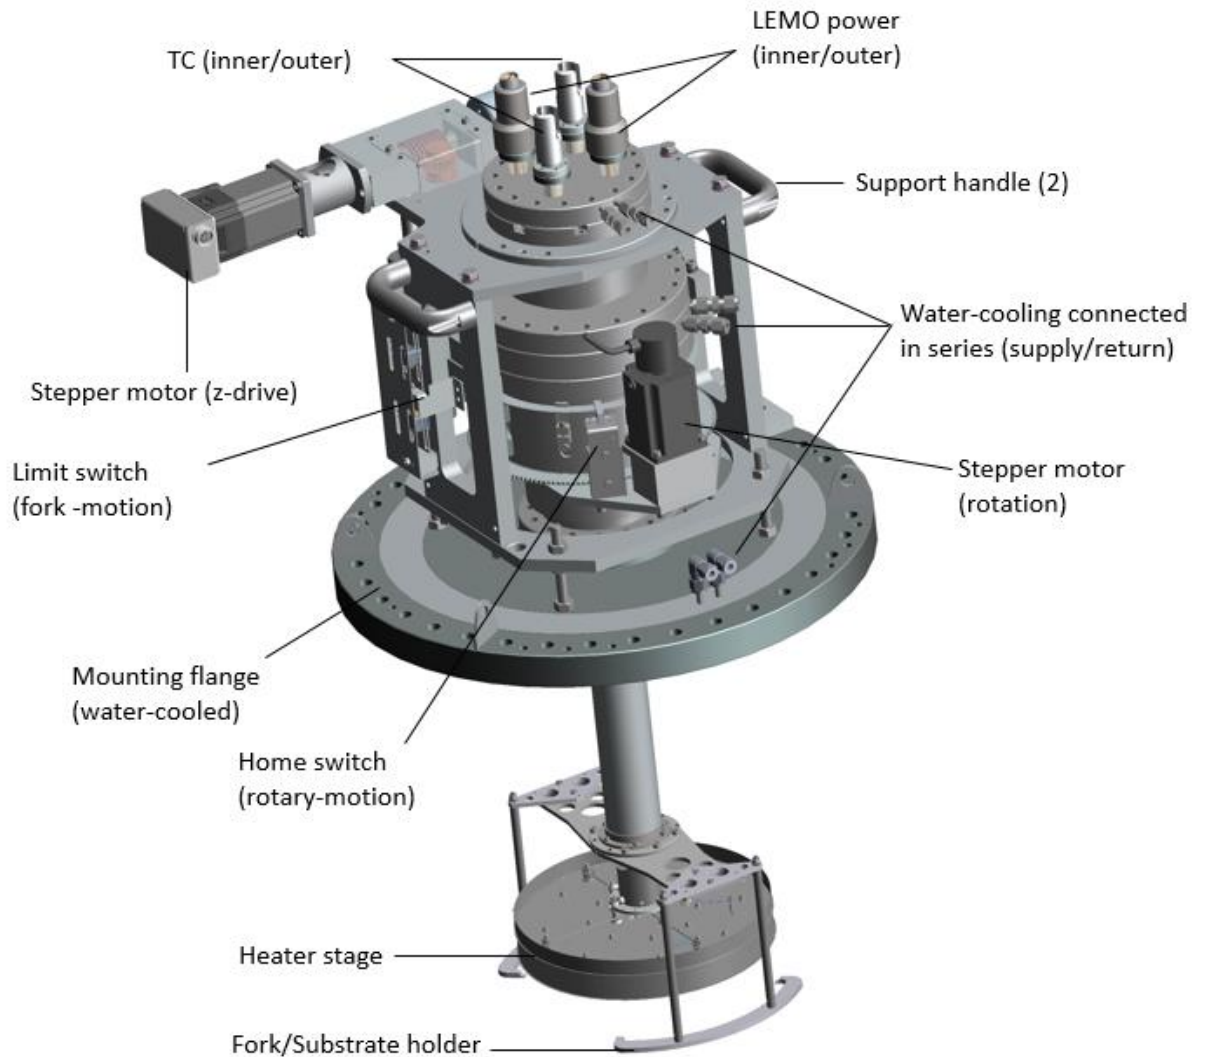

Fig. 3-1 Example of a substrate manipulator with fork-style stage, compatible with automated transfer systems.
- Fork-style (Fig. 3-1) - compatible with the DCA automated transfer systems, or